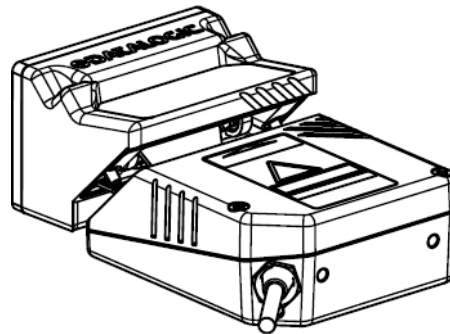

Figure 4
- 4) Check that the seal is correctly positioned and then after having aligned the OM2000N onto the scanner, fix it using the two screws (see Figure 4).